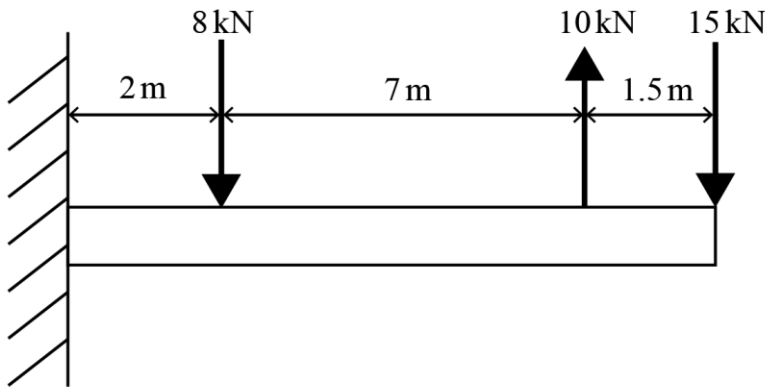

Fig. 4
- 6 (a) Fig. 4 shows a cantilever beam subjected to three point loads of 8 kN, 10 kN, and 15 kN. The beam has a self-weight of 300 N m^{-1} .